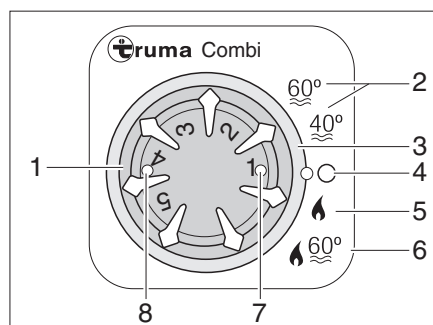

Fig. 56 Operating unit for heater/boiler
- Set the operating mode using the rotary switch (Fig. 56,3).
The heater selects the required burner setting according to the set heating level. In the "Heater and boiler" operating mode (Fig. 56,6) the water in the boiler is also heated. The heater can be operated with an empty boiler in the "Heater without boiler" operating mode (Fig. 56,5).
- Set the temperature control knob (Fig. 56,1) at the operating unit to the desired heating level.
- Set the rotary switch (Fig. 56,3) to winter operation "Heater without boiler" (Fig. 56,5) or to winter operation "Heater and boiler" (Fig. 56,6).
Green indicator lamp (Fig. 56,7) lights up.
- Set the rotary switch (Fig. 56,3) to "O" (Fig. 56,4).
The combination gas operation and 230 V electrical operation reduces the heating-up time (only possible when the heater on the operating unit (Fig. 56) is set to winter operation).